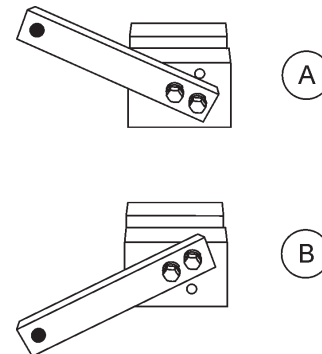

Figure 49. Trowel Arm Adjustment Setup
2. Ensure the fixture arm is in the proper setting (up or down) for your trowel arm rotation as shown in Figure 49.